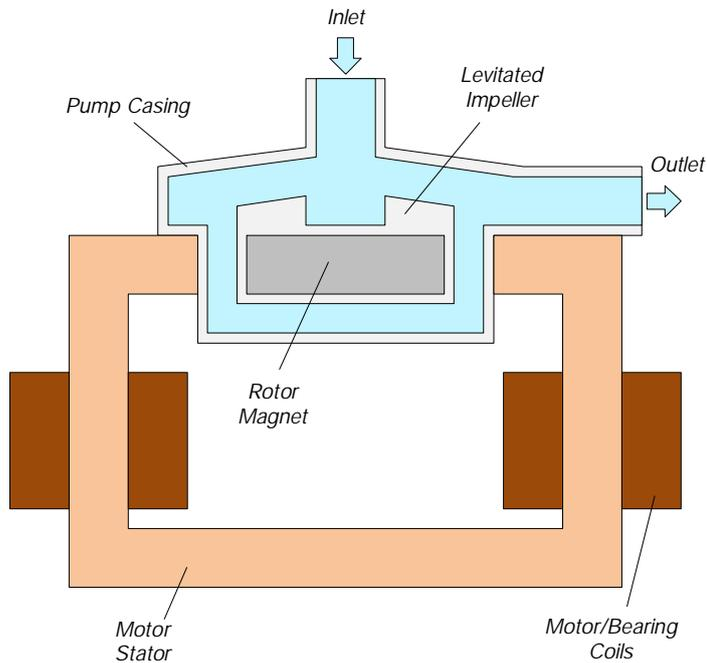
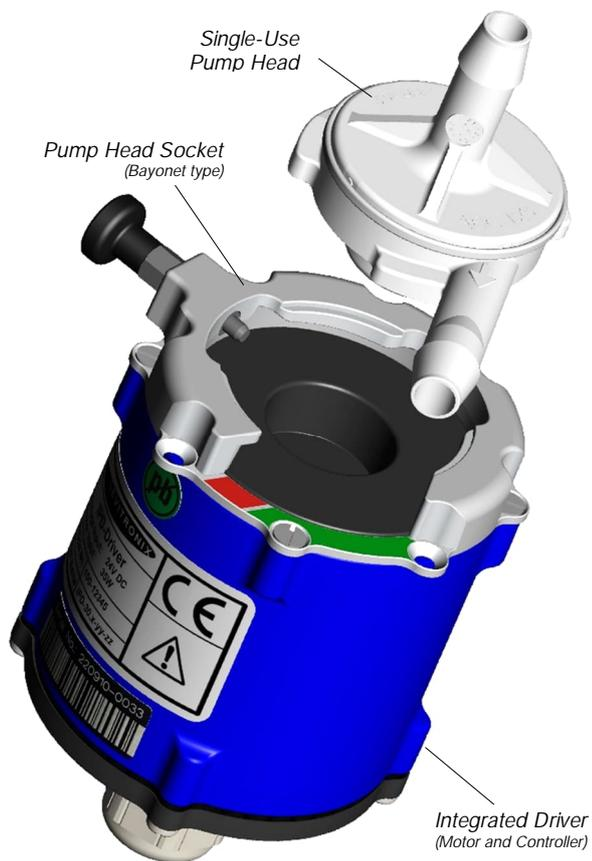
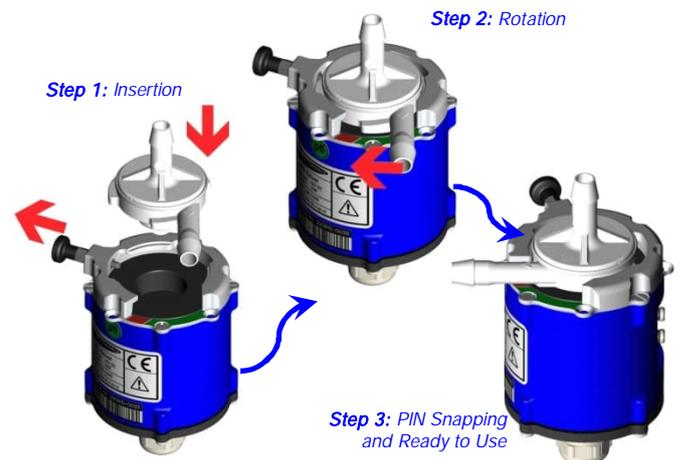

Figure 1: Schematic of the main elements of the MagLev centrifugal pump
Figure 2: Integrated MagLev pump driver with pump head
Figure 5: Intuitive 3-step pump head mounting procedure with bayonet type socket (PHS-i30.1)
Levitronix® has developed a revolutionary pump that has no bearings to wear out or seals to break. Based on the principles of magnetic levitation, the pump's impeller is suspended, contact-free, inside a sealed casing and is driven by the magnetic field of the motor (Figure 1). The impeller and casing are both fabricated from biocompatible (FDA, USP-VI, BSE/TSE and Animal free) gamma sterilizable polypropylene (PP) and together they make up the disposable pump head. A simple and intuitive exchange of the single use pump head is achieved with a bayonet socket type mounting procedure (see Figure 5). Flow rate or pressure is precisely controlled by electronically regulating the rotor speed, which eliminates any pulsation. With the lack of mechanical bearings plus the self-contained pump head design, the risk of contamination is drastically reduced. The absence of narrow gaps between the impeller and pump casing, plus the low-shear pump design allows the gentle pumping of sensitive liquids. The pump head can be easily inserted and removed with an intuitive bayonet socket. The controller and the motor are integrated into the driver housing (see Figure 2), hence cabling effort is reduced.
- Bayonet socket design for easy and intuitive exchange of disposable pump head (see Figure 5).